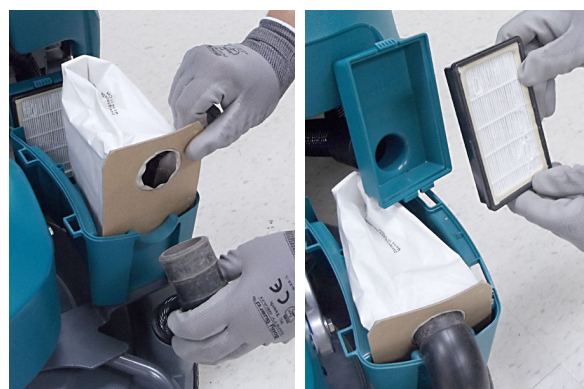

FIG. 12
3. Install dust bag and HEPA filter as shown. Replace cover (Figure 12). The HEPA filter is included with the Active Dust Collection model.